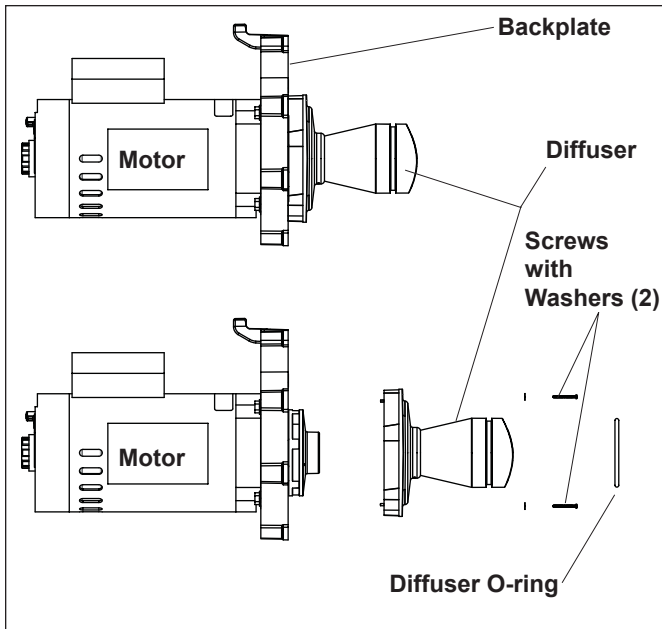
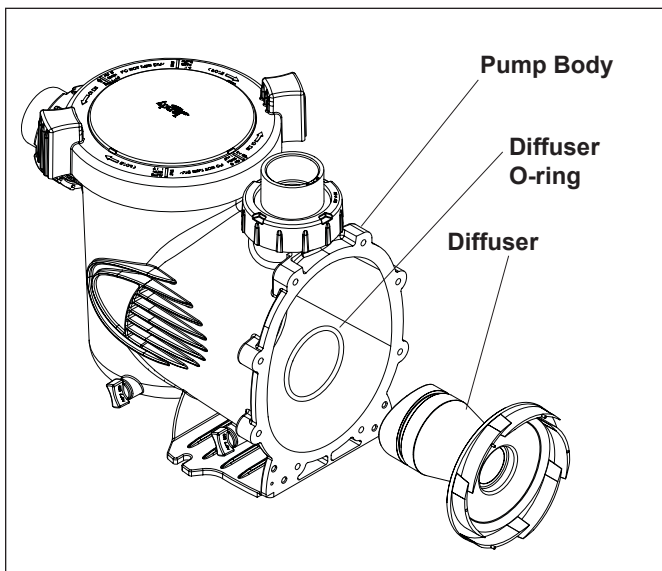

Figure 3. Remove the Diffuser
Figure 4. Remove the Diffuser O-ring
5. Using a No. 1 Phillips screwdriver, remove the two (2) screws holding the diffuser. (the diffuser is the cover over the impeller). Then remove the diffuser (see Figure 3). Remove the diffuser o-ring (see Figure 4).